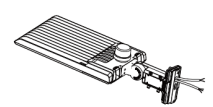

Fig. 4
2. Install the bracket on the fixture, then cover the side lid and tighten it. (Fig. 4)